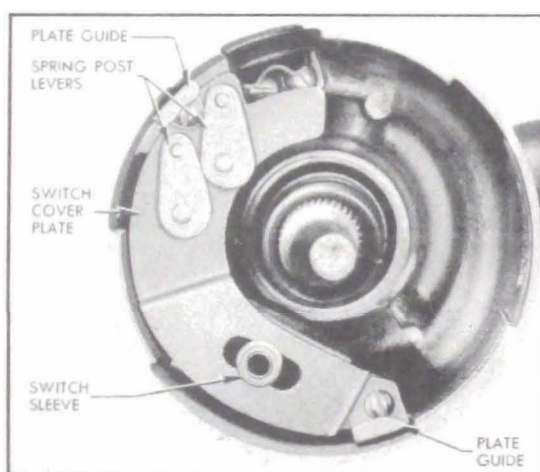

Figure 10-125—Spring Post Levers, Plate Guides, Sleeve, Switch Cover Plate
6. Remove switch sleeve. Lift out the two spring post levers, which have flat washers on lower pins between levers and switch cover plate. Remove plate guides. See figure 10-125.
11. Install plate guides with lock washers on screws. Install spring post levers with flat washers between levers and switch cover. Install switch sleeve. See figure 10-125.